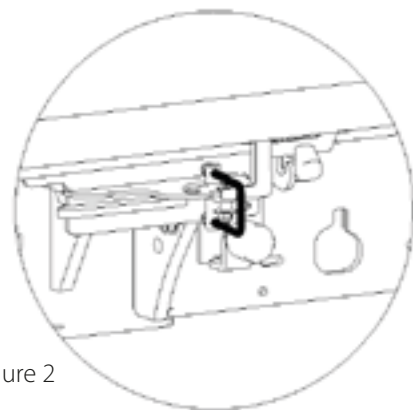

Figure 2
- Before taking to the road, make sure that the rear door is properly hooked and locked, using the 2 spring clips (Figure 2).
Pivot the hooks on either side of the door (Figure 2) in order to unlock it before tipping (automatic opening of the lower keeper hooks).
- Check that the two locking spring clips of the door frame are engaged (Figure 2).